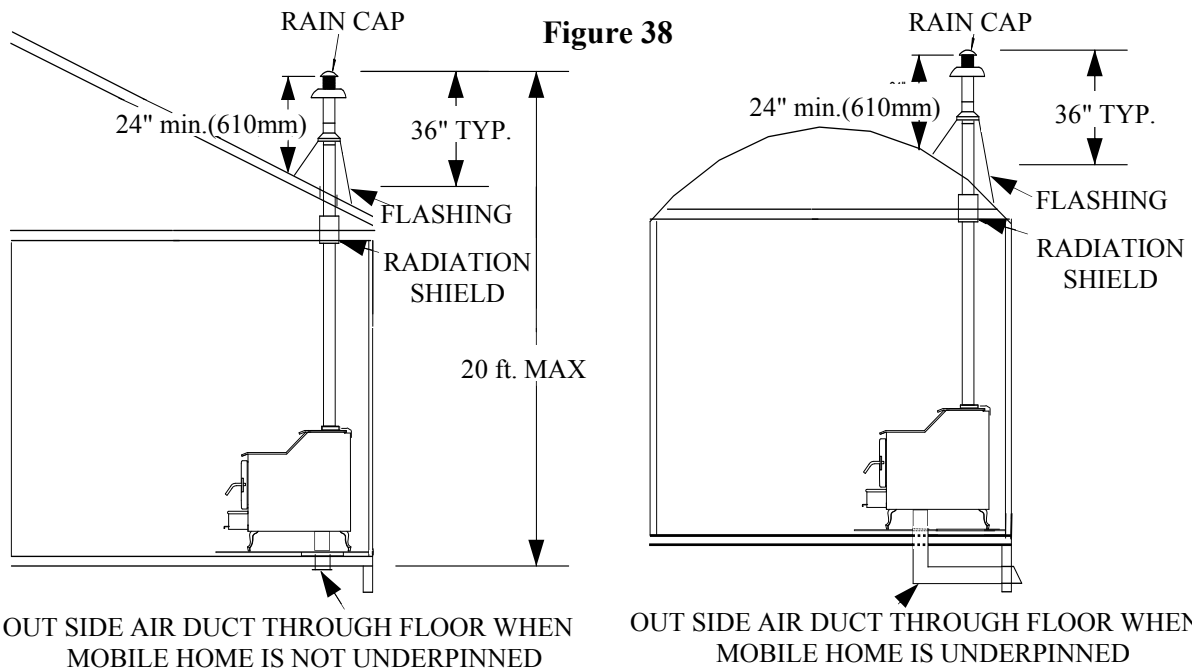

Figure 38
10. Slide the outside air duct up to the bottom of the heater and attach it with the screws supplied with the kit, using a wrench or ratchet. (See Page 43 Figure 38)
- Note:** If the mobile home is underpinned you must provide extra pipe (NOT INCLUDED IN PACKAGE) too extend outside air ducting through underpinning or foundation of mobile home. The inlet of the outside air duct must be in the same atmospheric as pressure the exhaust . (See Page 43 Figure 38).
- (b) Chimney pipe height is at least 2 feet higher than any part of the roof within 10 feet of the chimney. (See Page 43 Figure 38.)